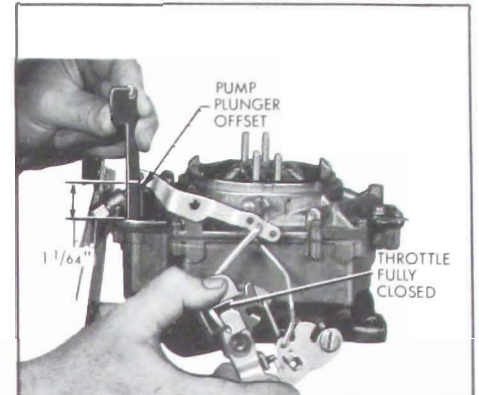

Figure 3-60—Checking Pump Plunger Adjustment
10. Pump Plunger Adjustment. Push fast idle cam to full down position and back out throttle stop screw until primary throttle valves can be fully closed. With throttle held closed and pump rod in center hole of lever, measure vertically from under side of pump plunger offset to air horn casting. See Figure 3-60. Measurement should be 1-1/64".